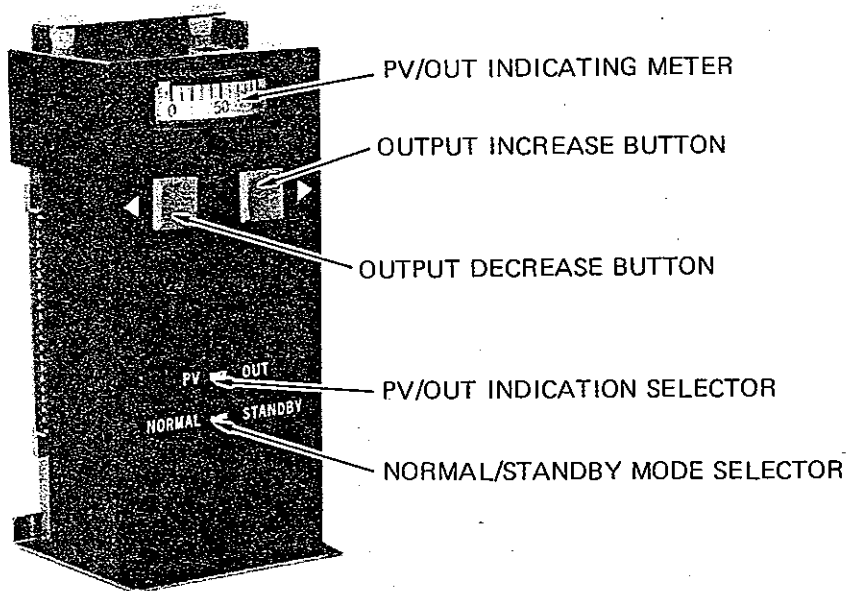

Figure 3.7 Follow-up Type Standby Manual Unit
(2) Operating Procedure When Abnormal State is Caused
- ① When an abnormal state is detected, the instrument is automatically switched into the standby mode and it delivers the controller output which existed immediately before the abnormal state has occurred. The CPU. F lamp on the front panel of the instrument indicates that the operation has been changed to the standby mode.
- ② The output of the standby manual unit can be adjusted either with the output control buttons  on the instrument front panel or with the output control buttons  of the standby manual unit.
- ③ Pull out the KMM main unit, pushing upward the bracket at the front bottom of the instrument. The main unit will stop at a half-way position as it is caught by the latch. Release the latch and pull out the KMM main unit.
- ④ For repair or replacement of the KMM main unit, set the STANDBY/NORMAL selector switch in the STANDBY state, release the clamping latch of the standby manual unit, and remove the standby manual unit from the KMM main unit. The standby manual unit will remain the case. (Figure 3.7)